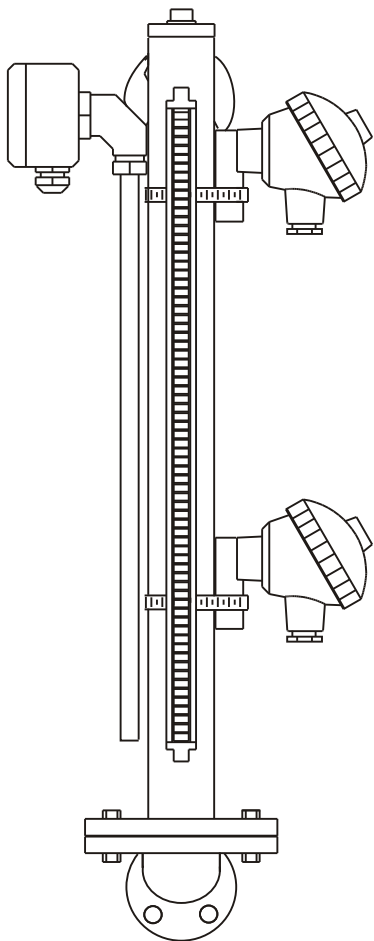
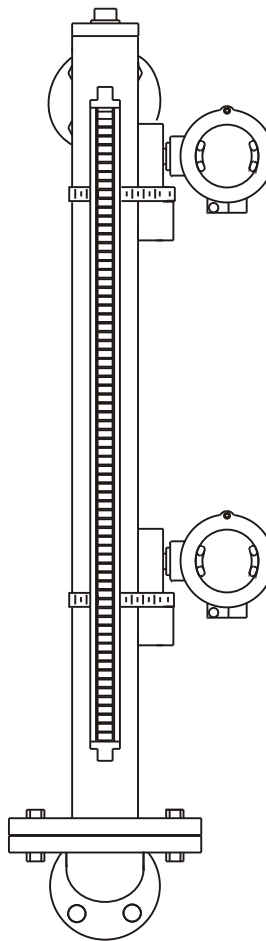
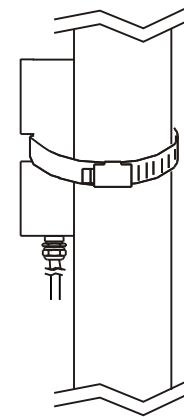

fig. 1
fig. 2
fig. 4
1. (Fig.1) By-pass Level indicator with the standard magnetic switches (Aluminum Alloy) and liquid level transmitter. With the housing protection IP65, it is suitable for outdoor or moist environment.
2. (Fig.2) By-pass Level Indicator with explosion-proof magnetic switches. With its housing protection Ex d IIC T6, it is applicable for hazardous environments .
2. The magnetic switch (RFB-12 & RFB-13 □□) is to be fastened on the chamber with a hose clamp. (see fig.4 and page 18 - fig.1, fig.2) Positioning orientation of magnetic switches as fig.2.